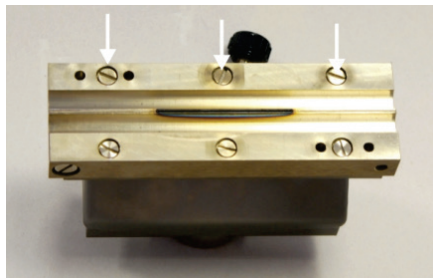

Fig. 55 Screws on the front burner jaw
1. Unscrew the screws from the front burner jaw (arrow in Fig. 55) (the screw for fastening the burner on the mixing chamber tube is also located on the side of the front burner jaw).